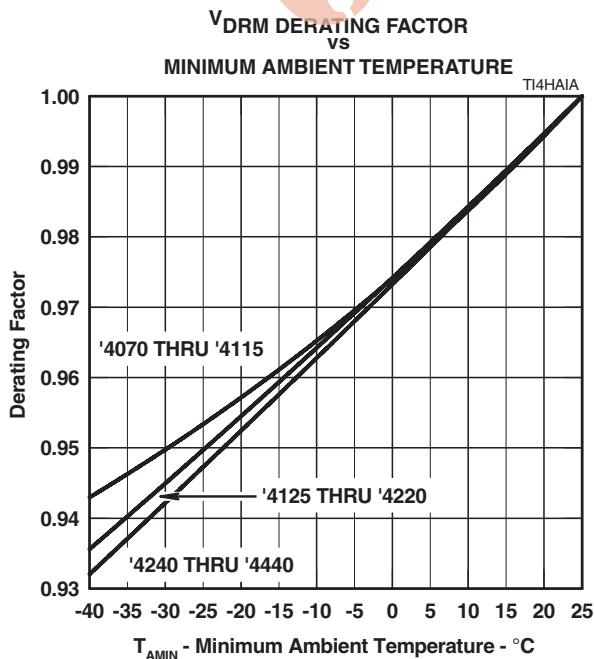
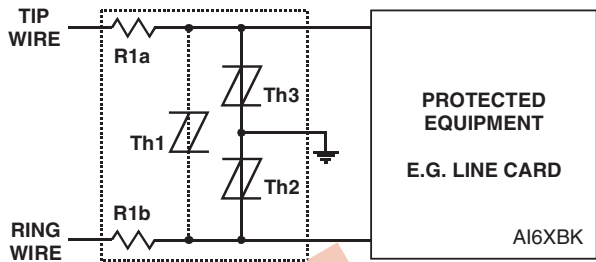
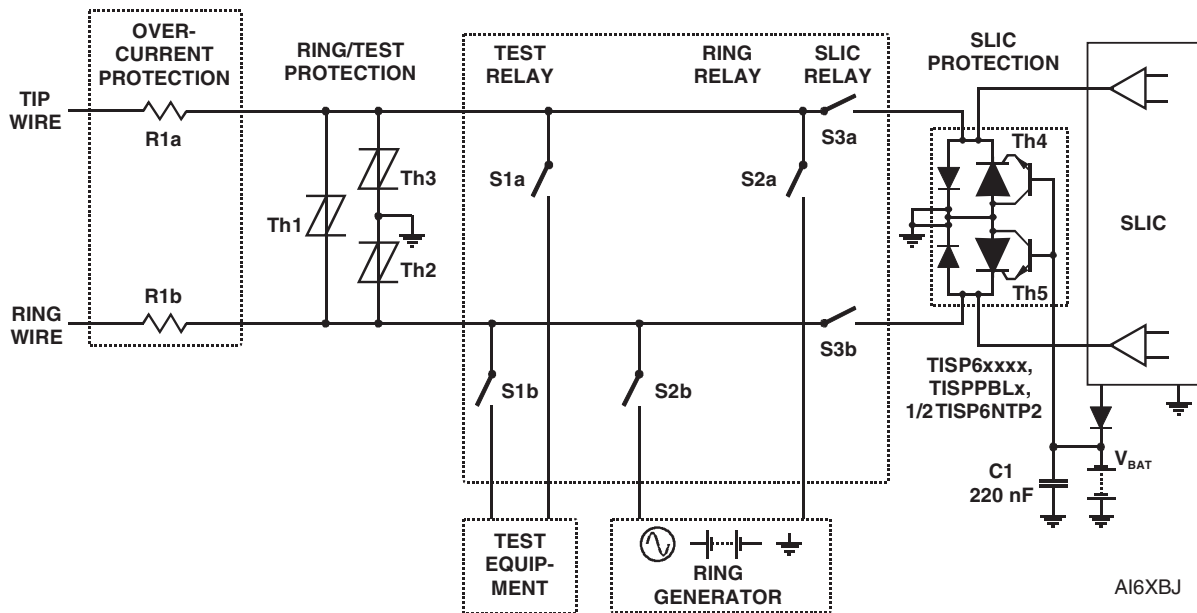

Figure 10.
Figure 15. PROTECTION MODULE
Figure 17. LINE CARD RING/TEST PROTECTION
- NOTES: 1. See Applications Information and Figure 10 for voltage values at lower temperatures.
The protector characteristic off-state capacitance values are given for d.c. bias voltage,  $V_D$ , values of 0, -1 V, -2 V and -50 V. Where possible, values are also given for -100 V. Values for other voltages may be calculated by multiplying the  $V_D = 0$  capacitance value by the factor given in Figure 6. Up to 10 MHz, the capacitance is essentially independent of frequency. Above 10 MHz, the effective capacitance is strongly dependent on connection inductance. In many applications, such as Figure 15 and Figure 17, the typical conductor bias voltages will be about -2 V and -50 V. Figure 7 shows the differential (line unbalance) capacitance caused by biasing one protector at -2 V and the other at -50 V.
Figure 10 allows the calculation of the protector  $V_{DRM}$  value at temperatures below 25 °C. The calculated value should not be less than the maximum normal system voltages. The TISP4260H3LM, with a  $V_{DRM}$  of 200 V, can be used for the protection of ring generators producing 100 V rms of ring on a battery voltage of -58 V (Th2 and Th3 in Figure 17). The peak ring voltage will be  $58 + 1.414 \times 100 = 199.4$  V. However, this is the open circuit voltage and the connection of the line and its equipment will reduce the peak voltage. In the extreme case of an unconnected line, clipping the peak voltage to 190 V should not activate the ring trip. This level of clipping would occur at the temperature when the  $V_{DRM}$  has reduced to  $190/200 = 0.95$  of its 25 °C value. Figure 10 shows that this condition will occur at an ambient temperature of -28 °C. In this example, the TISP4260M3LM will allow normal equipment operation provided that the minimum expected ambient temperature does not fall below -28 °C.